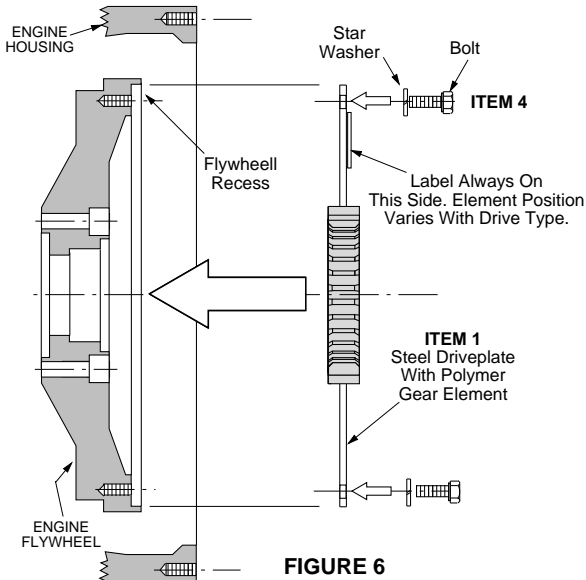

FIGURE 6
STEP 2. When assembling Item 2, check and clear pump shaft of foreign matter or obstructions in splines, or keys etc. before sliding the hub on shaft. The geared drive hub must be positioned to correct "L" length indicated in FIG 2, so full gear tooth drive contact is made in polymer element driveplate Item 1 in FIG 6. In standard kits with SAE Pumps, "L" length is shown in TABLE 2 by using the first four codes from your kit part number and reading the "L" length. Eg.- Code "90/C" would indicate "L" as 45mm to 48mm. If drive kit is not a standard SAE type refer to our Sales department for dimension "L". After finding "L" length use a rule or vernier calliper and position the outer geared face of Item 2 at "L" length from the Hyd Pump bolt flange face. "L" length must never exceed max shown. Position the hub for the longest spline or key contact while remaining inside tolerance. The hub is then secured to the shaft as detailed in step 3. 63 series DIN group with taper shaft are fixed length position and do not require "L" length positioning.
STEP 4. Refer to FIG 6. Item 1 Steel flywheel driveplate with attached polymer element locates in flywheel clutch drive ring recess. Some flywheels are provided with multiple recesses for additional driveplate size options. The supplied driveplate has a identification label. The driveplate must be entered in to the flywheel drive ring recess with the label outwards. Hence:- The label faces away from the engine. Make sure that the flywheel is cleared of burrs paint or grease and that the drive plate pushes in flat into the recess and the tapped holes in the recess line up with the bolt holes in the driveplate.